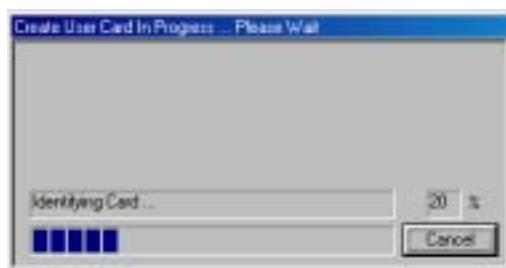

Figure 11.29 Card Creation Progress Window
8. A window showing the card creation progress will appear. When the window closes, the card has been created (Figure 11.29).
9. A window showing the card creation progress will appear. When it has closed, the card has been created (Figure 11.29).